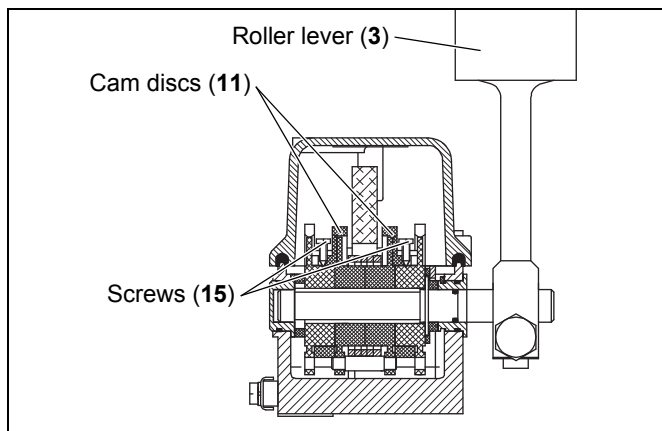

Fig. 5-10: Adjusting the switch points – Loosening screws in the cam disc
There are two screws (15) in each of the two cams (11) (see figure 5-10, page 22). With one screw (15), the cam (11) is fixed in its basic setting. The second screw (15) is screwed into the cam (11).